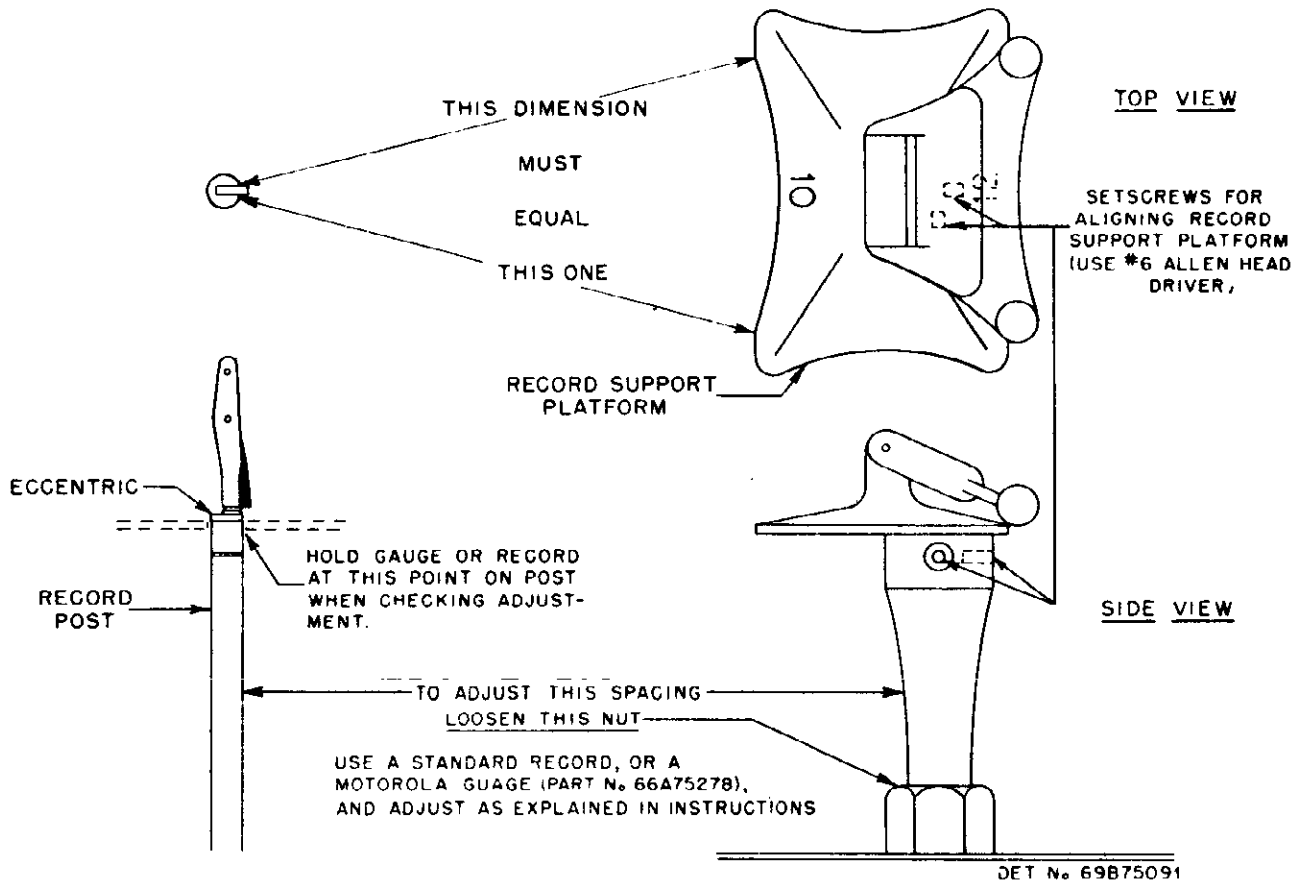

FIGURE 10. RECORD SUPPORT PLATFORM ADJUSTMENT DETAIL
It is important that all points on the "lip" of the record support platform be equi-distant from the center point of the spindle. This will assure that all points of the record will leave the platform at the same time. If the record support is too far out of alignment, the record would actually hang on the point nearest the spindle and fail to drop properly. See Figure 10. The record support platform must also be spaced properly from the record post.
3. Lift the record so it is in line with the top of record post (not eccentric) as shown in Figure 10. The record should clear the lip of the record support platform equally at all points and the gap between the record and record support platform should be just large enough to let the record clear the platform.
2. The spacing between the record post and the record support platform can be varied by loosening the large hex nut at the base of the record support base (see Figure 10) and moving the platform, as required. The spacing should be such that the record, when held as shown in Figure 10, will just clear the platform.